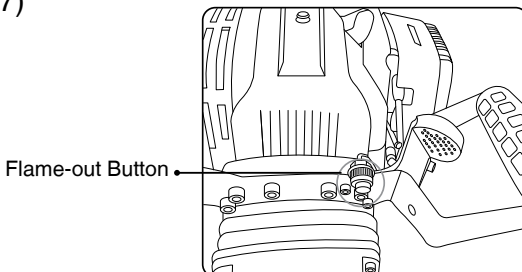

Figure 7
- 2- Press the red button (Flame-out Button) to stop the machine. (See Figure 7)